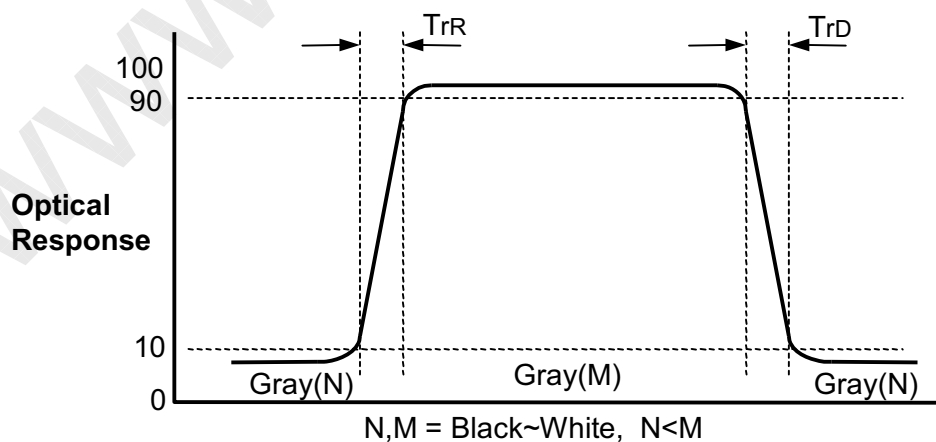

FIG. 3 Response Time
- Response time is the time required for the display to transition from G(N) to G(M) (Rise Time,  $Tr_R$ ) and from G(M) to G(N) (Decay Time,  $Tr_D$ ). For additional information see the FIG. 3. (N<M)